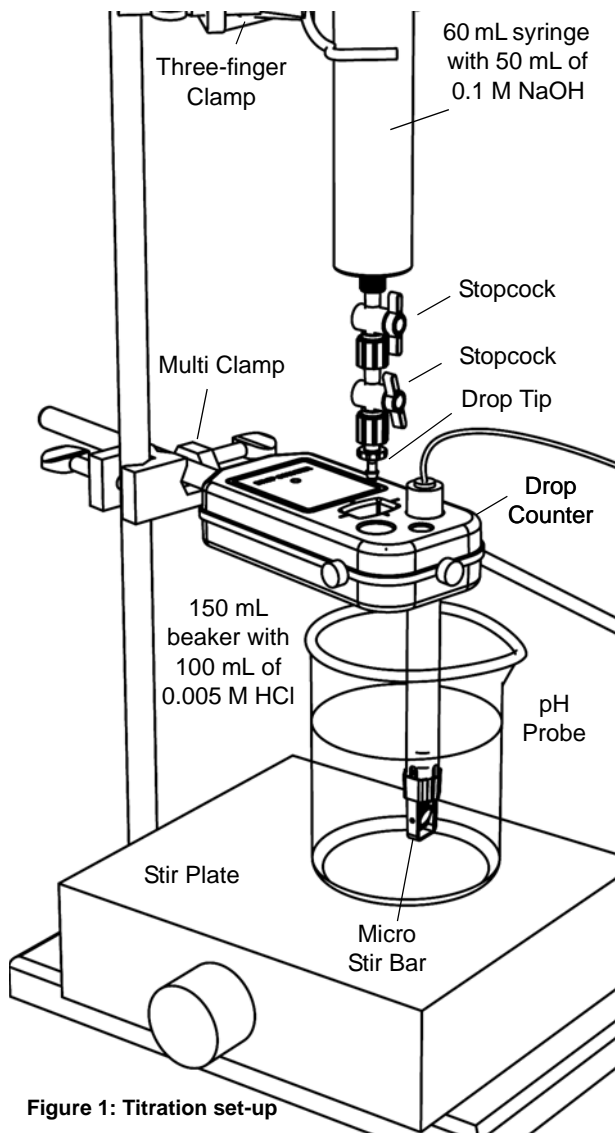

Figure 1: Titration set-up
1. Set up the equipment and consumables as illustrated in Figure 1. Attach both stopcocks to the syringe, and attach the drop tip to the bottom stopcock. Line up the drop tip with the rectangular opening in the Drop Counter.